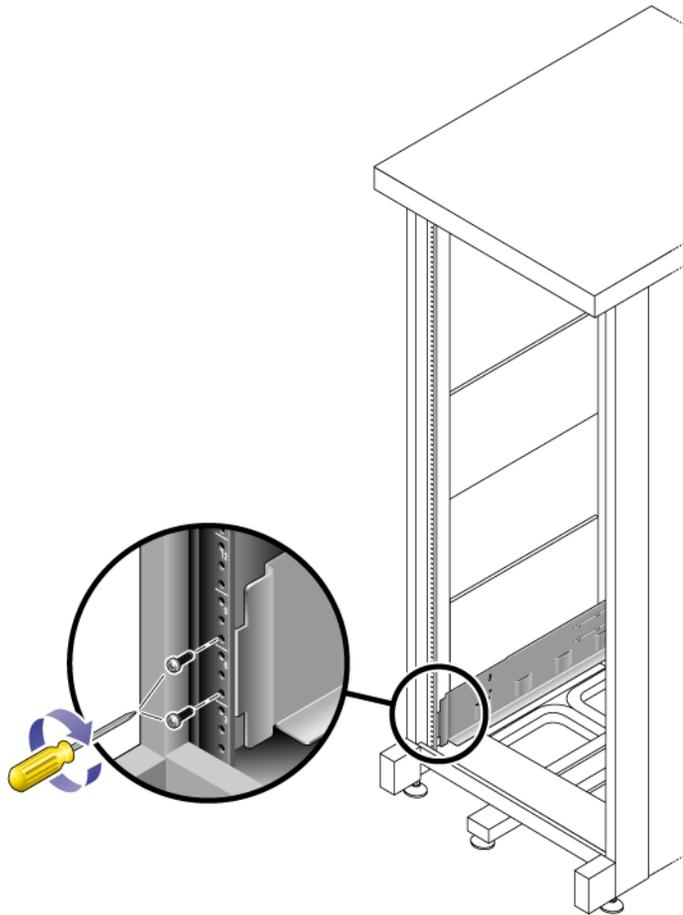

FIGURE 2-3 Securing the Left Rail to the Front of the Cabinet
2. Use the #2 Phillips screwdriver to insert and tighten two 8-32 screws to secure the left rail to the front of the cabinet (FIGURE 2-3).